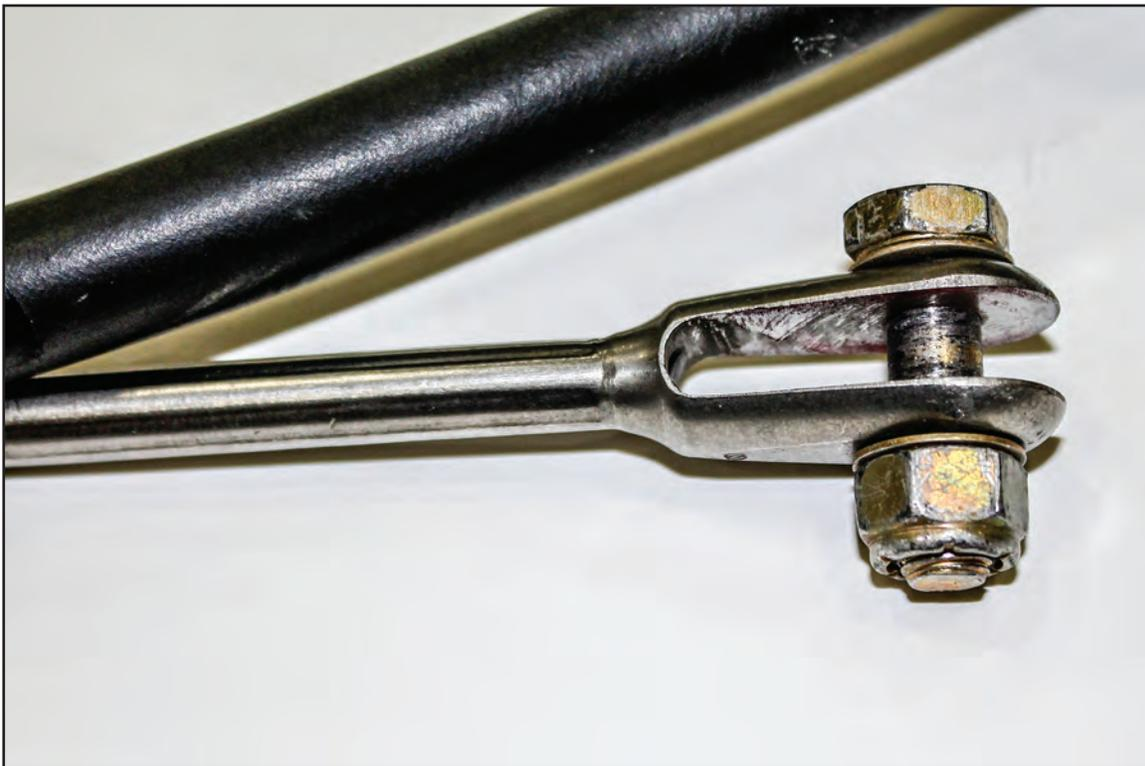

Figure 24—The clevis fitting and hardware required to attach the suspension to the rigging bracket.
- Inspect the clevis fitting for cracks and deformation (figure 24). Ensure that the connection between the clevis fitting and suspension cable is tight.